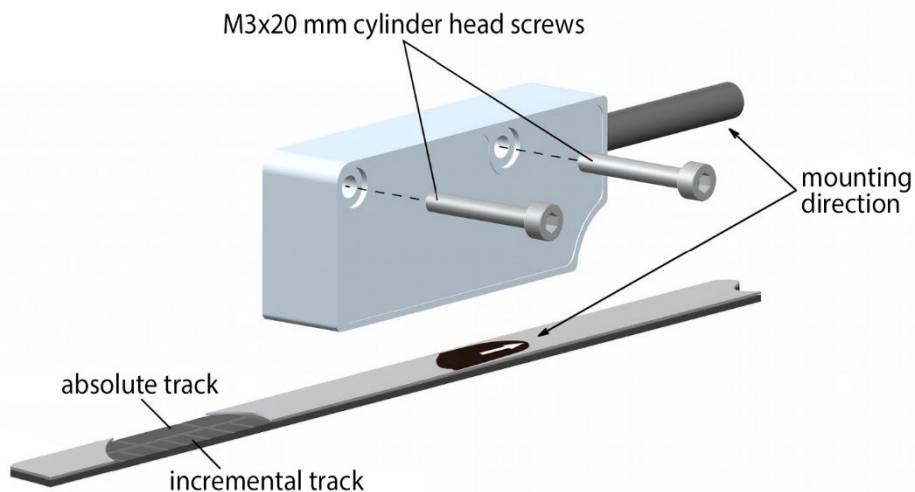

Figure 1
The figures 1 and 2 shows how the sensor and the tape must be installed. Please note that the WBA2 magnetic tape is fitted with two tracks: an absolute track on one side and an incremental track on the other side. Thus, you must strictly comply with the mounting direction as indicated by the arrow on the tape!
Make sure that the installation meets the system's mounting tolerances shown in the figures 1 and 2 along the whole measurement length. The system cannot work if the mounting direction is not abided!
- The position information increases when the sensor moves as indicated by the arrow in figure 1, starting from a min. value up to a max. value. Min. and max. values depend on the specific WBA2 magnetic tape installed in your application.